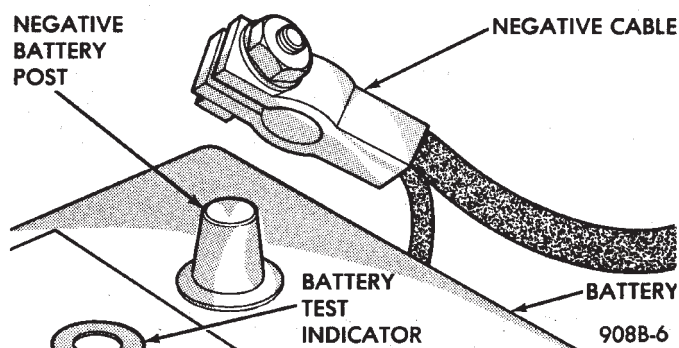
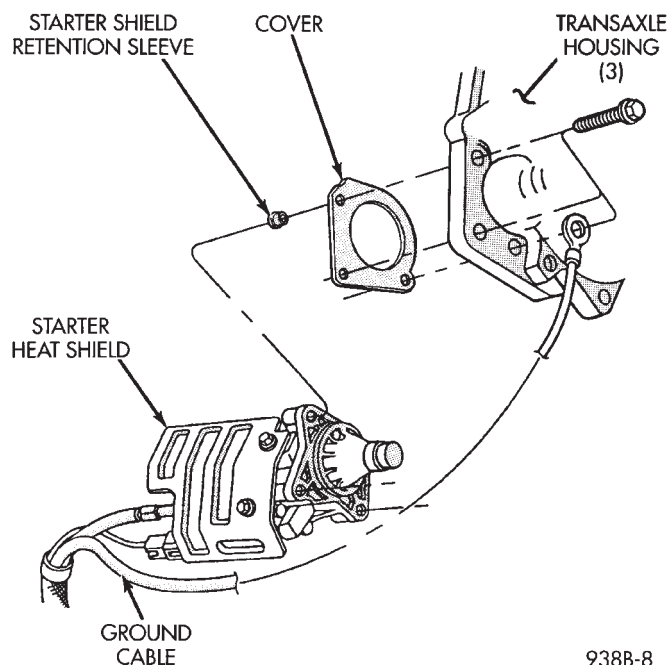

Fig. 1 Remove or Install Battery Cable
Fig. 2 Starter—3.5L Engine
- (1) Disconnect negative battery cable (Fig. 1).
- (2) Raise vehicle.
- (3) For easier servicing, do not remove the wiring from starter at this time.
- (4) Remove three bolts attaching starter to engine (Fig. 2).